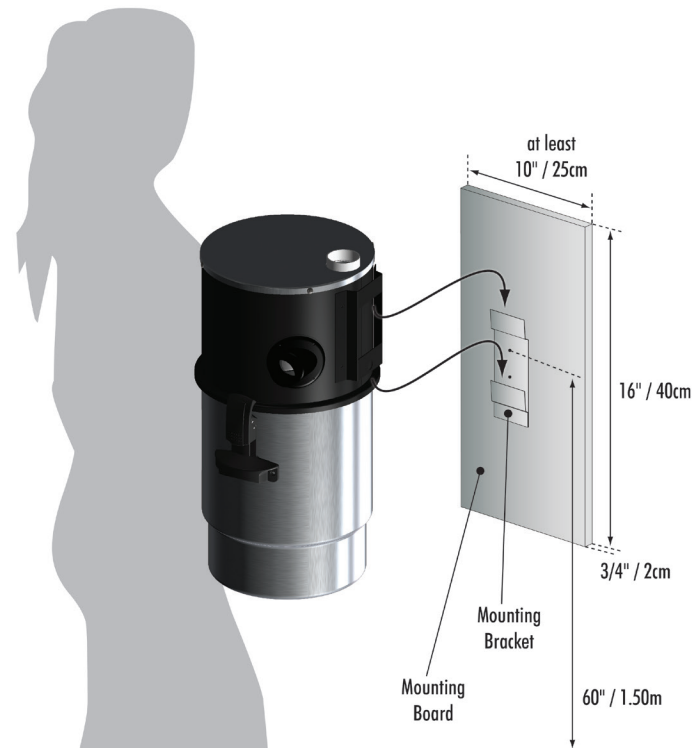

Fig.1 Mounting the unit on the wall.
4. Insert the power unit bracket into the mounting bracket (Fig. 1).